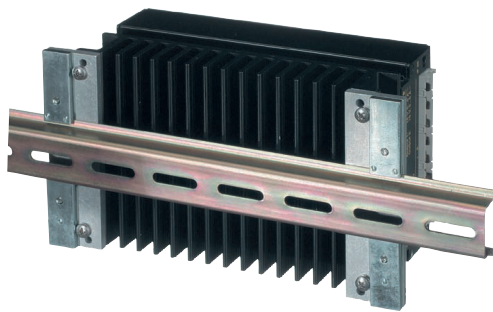

Fig. 48
- DIN-rail mounting assembly HZZ0615-G (DMB-K/S); see fig. 48